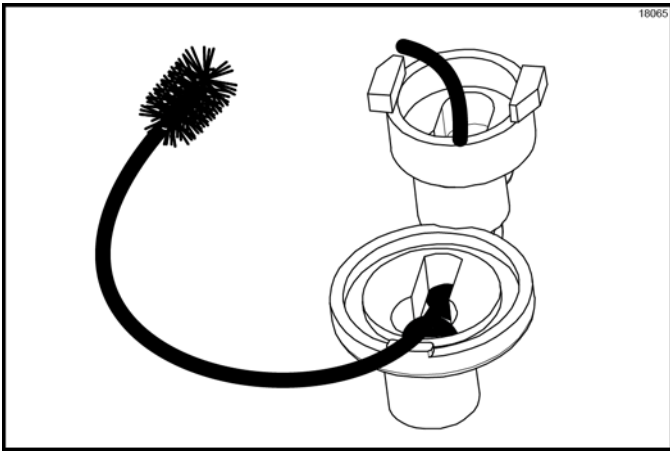

Figure 6-104
- Insert the black shielded brush, by the non-bristle end, into the passageway between the inlet valve and the outlet valve. (See Figure 6-104.)